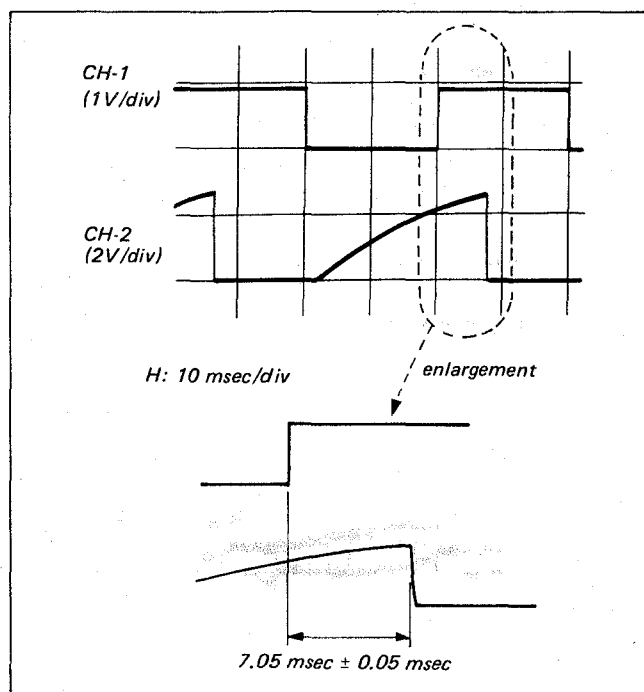

Fig. 5-13. Tracking center adjustment
- ii) Adjust to $7.05 \text{ msec} \pm 0.05 \text{ msec}$ with RV304. (See Fig. 5-13.)